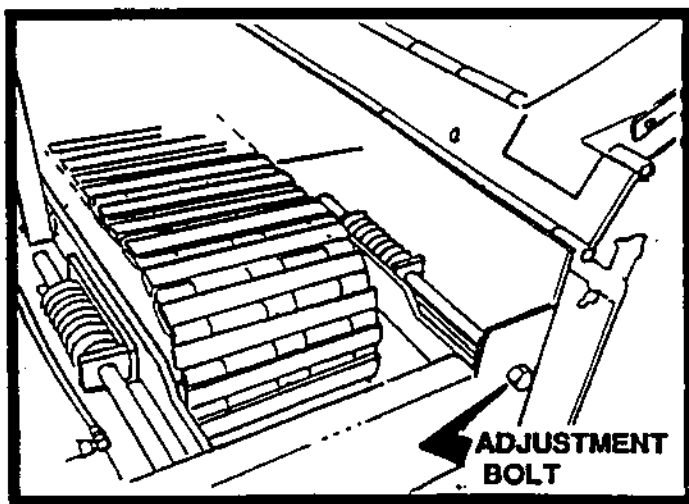

FIGURE 32
- A. Adjust; Adjustment Bolts on front of machine like shown in figure 32 to where the springs are compressed to about 6³/₈ to 7 inches.